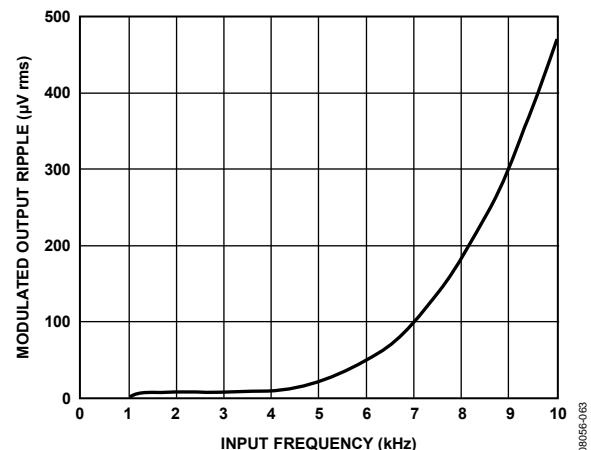

Figure 60. ADA4051-1/ADA4051-2 Modulated Output Ripple vs. Input Frequency
The remaining voltage ripple originates from two sources. The first type of ripple is due to the residual ripple associated with the initial offset of the Gm1. It is proportional to the magnitude of the initial offset and creates a spectrum at the chopping frequency (f_{CHOP}). When the amplifier is configured as a unity-gain buffer, this ripple has a typical value of 4.9 μ V rms and a maximum of 34.7 μ V rms. The second type of ripple is due to the intermodulation between the high frequency input signal and the chopping frequency. This ripple depends on the input frequency (f_{IN}) and creates a spectrum at frequencies equal to the difference between the chopping frequency and the input frequency ($f_{CHOP} - f_{IN}$), as well as at frequencies equal to the summation of the chopping frequency and the input frequency ($f_{CHOP} + f_{IN}$). The magnitude of the ripple for different input frequencies is shown in Figure 60.
- No affect on the desired input signal as long as its frequency is much lower than the chopping frequency shown in Figure 60